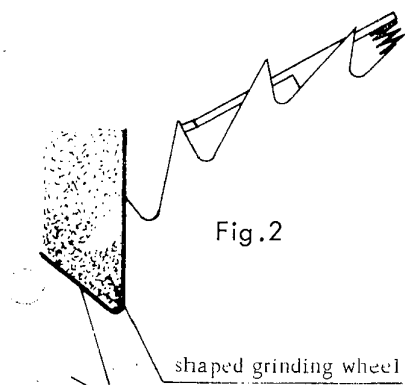

Fig. 2
10. Bring the back of the teeth up to the grinding wheel by turning the feed spindle (Figure 2).